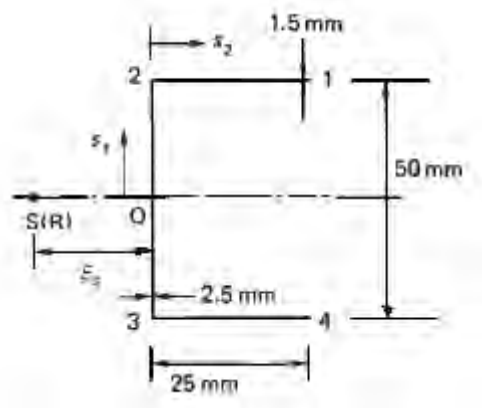

Figure 8:
8. Determine the maximum shear stress and the warping distribution in the channel section shown in Figure 8 when it is subjected to an anticlockwise torque of 10Nm. $G=25\,000\text{N/mm}^2$. [16]